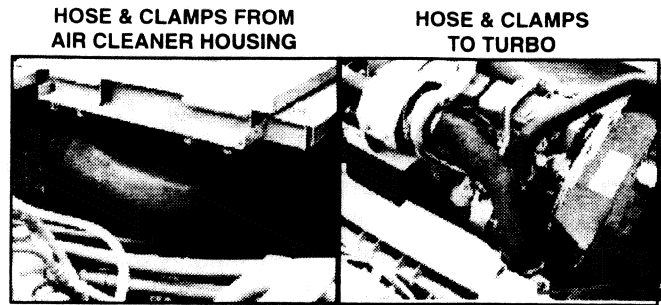

FIGURE 4.72
1. Inspect all hoses for damage and tighten all hose clamps. See Figure 4.72.